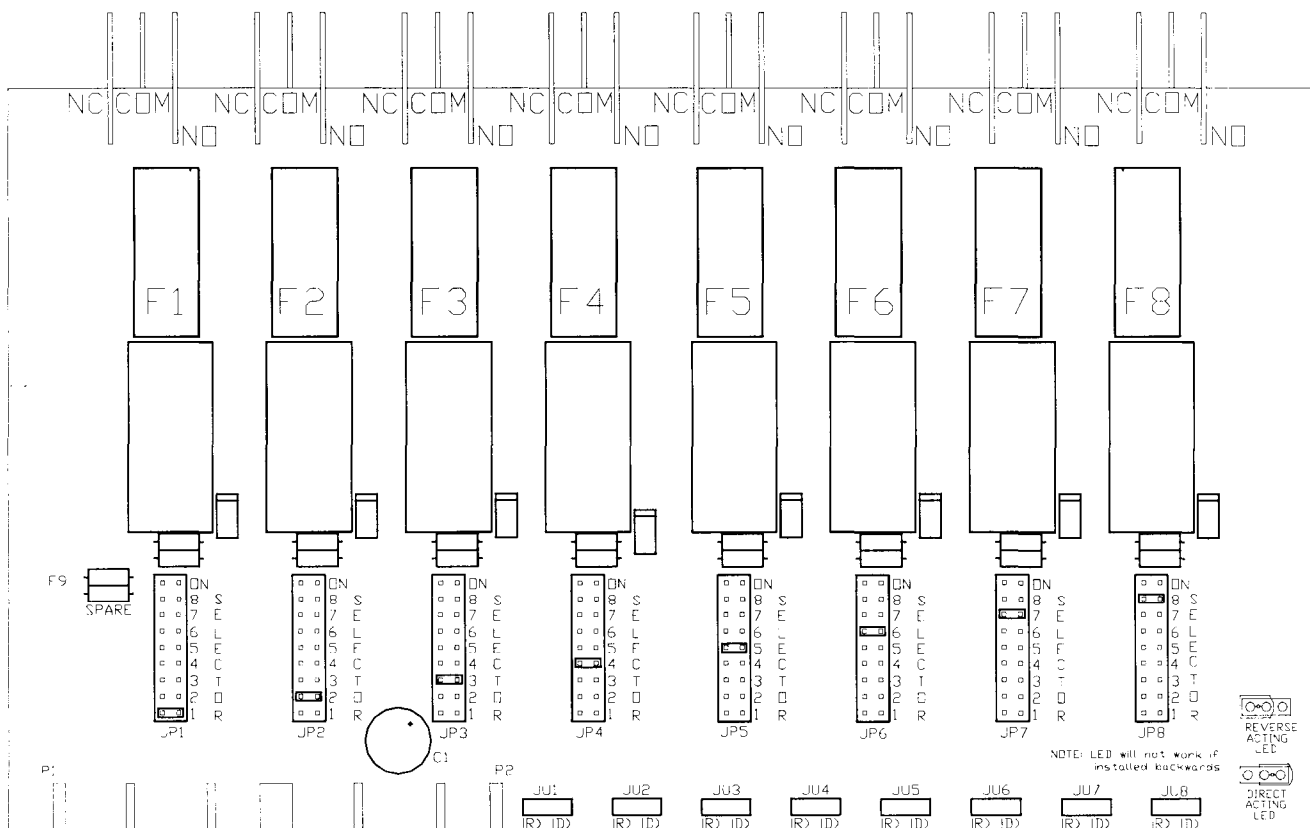

Figure C-8: CRX-8J Relay Board
- The standard position for the shunts is shown in Figure C-8. In this case, each relay is associated with the output channel. However, if the need arose, it is possible to have multiple relays assigned to a single output channel.